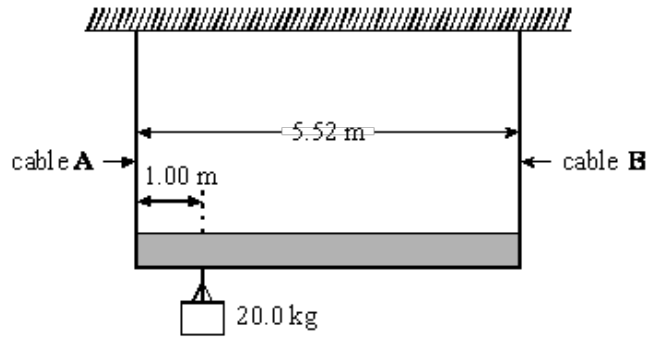

Figure 2
- (c) An object of mass 20.0 kg is hung from the beam 1.00 m from cable **A**, as shown in **Figure 2**.